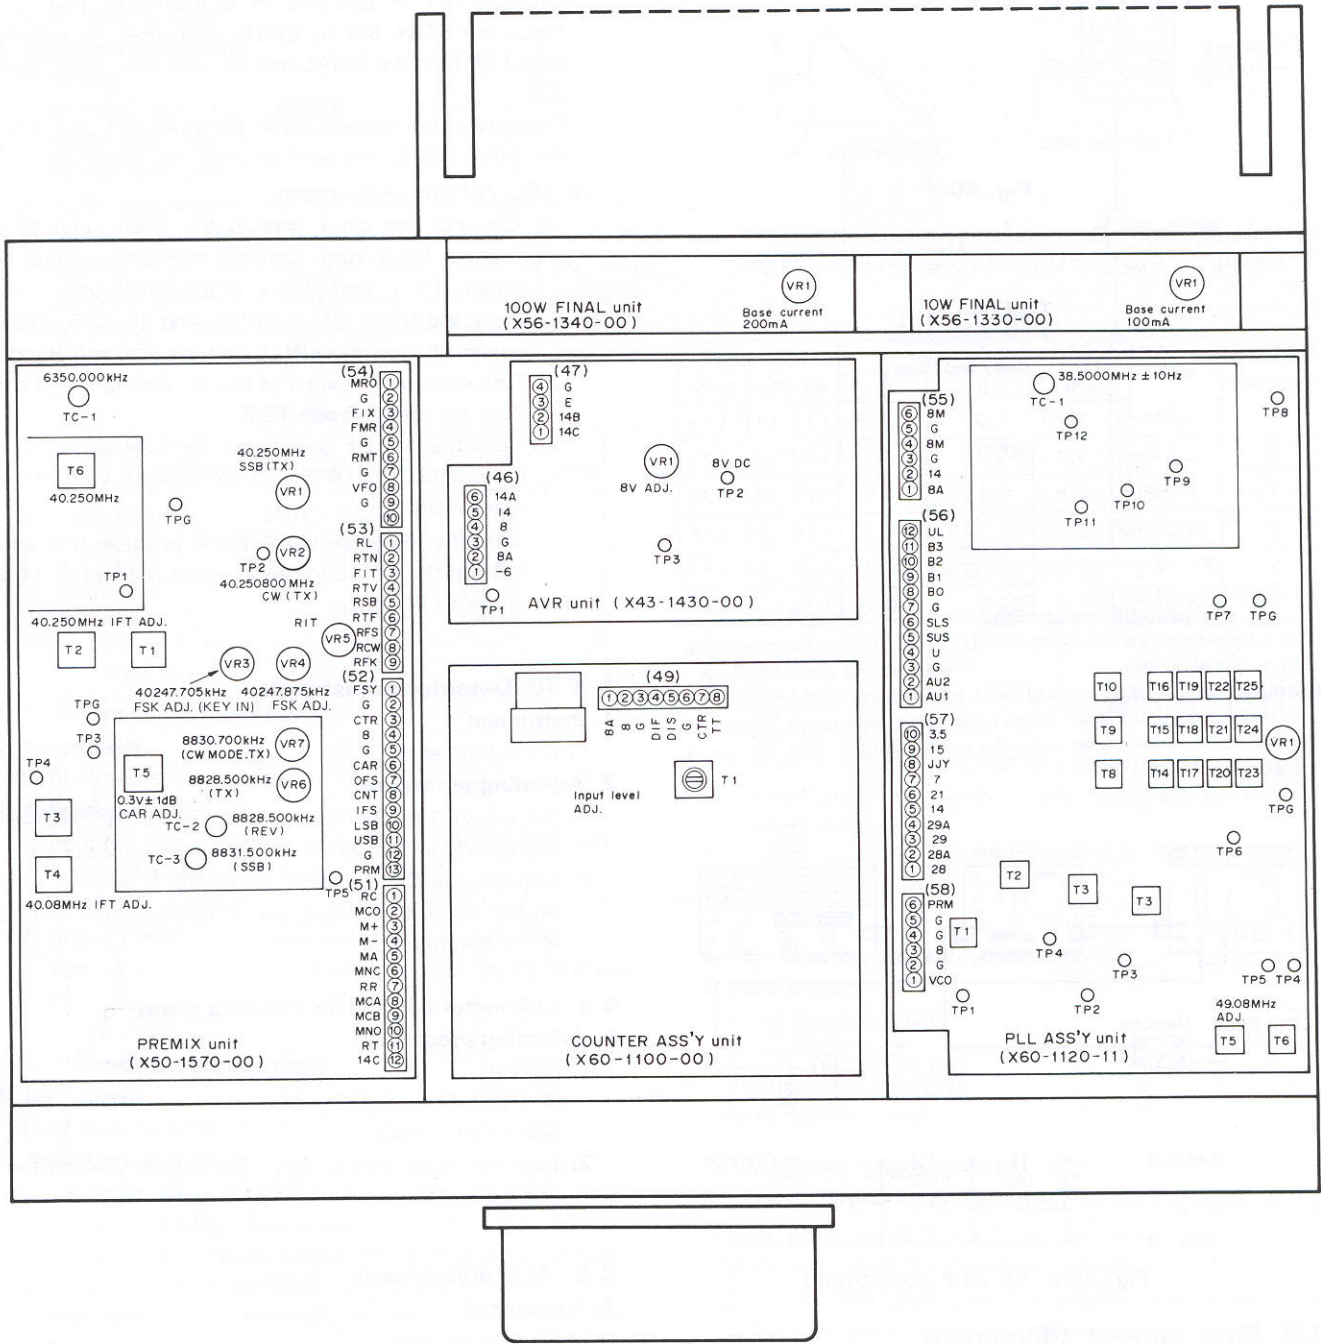

Fig. 37 TS-180 Top view
Connect the frequency counter to the 1P terminal (No. 54) on the PREMIX unit, and adjust frequency to 6350.000 kHz by TC 1. (refer to Fig. 37)
- 1) Connect the frequency counter between terminal TP-1, PLL unit (X60-1120-00/11/61) and the GND terminal. Connect the voltmeter between terminal TP-3 and the GND terminal. (refer to Fig. 37)
- 1) Connect the frequency counter to TP-8 on the PLL ASS'Y unit, on the 1.5 MHz BAND, adjust frequency to 38.500000 MHz  $\pm$  10 Hz by TC-1. (refer to Fig. 37)
Remove the jumper, and connect the current meter between TP1 + and TP2 - in the FINAL unit. Place the STBY SW to SEND, and after 15 seconds, adjust VR1 on the FINAL unit for 100 mA. (refer to Fig. 37).